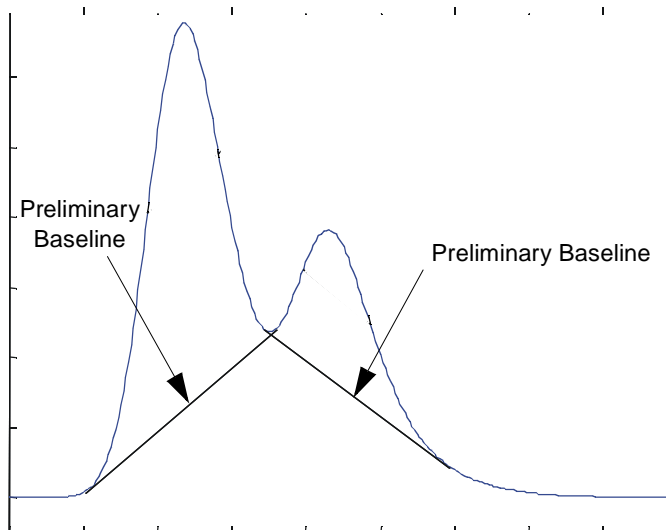

Figure 2-11 Preliminary Baselines in Cluster Peaks
1. ApexTrack expands each peak's baseline until its ends meet the slope difference threshold criteria. If peaks are not resolved, as the baselines are expanded they overlap. Figure 2-11 shows the preliminary overlapped baselines for a two-peak cluster.